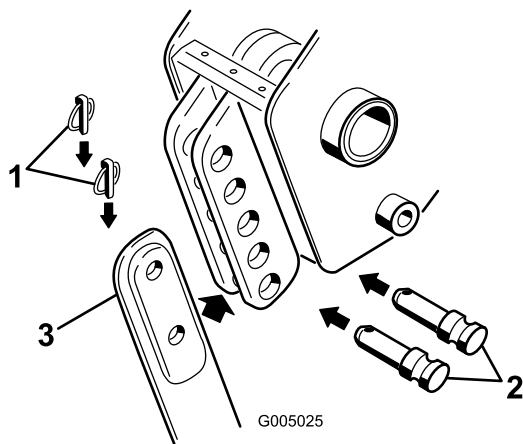

Figure 5
Note: To completely remove the blade, remove both the upper and lower lynch and clevis pins; refer to Figure 5.
4. Remove the 2 lynch pins from the clevis pins in the blade bracket, then remove the clevis pins (Figure 5) and the existing blade (if installed).
- Slide the new blade into the blade bracket and secure it at the desired depth (a change in mounting holes changes the depth by 7.6 cm (3 inches), using the clevis pins and lynch pins removed previously (Figure 5).